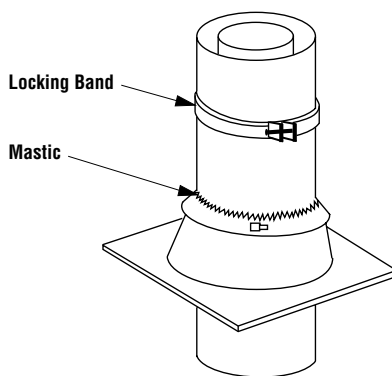

Figure 29
Step 8. The standard Security Chimneys FTF8 roof flashing assemblies include a storm collar. Slide the storm collar over outer chimney, rest on flashing spacers and align with top surface of flashing. Insert tab in slot, pull tight and bend tab back over slot. Seal storm collar to outer chimney with roof caulking or mastic around entire circumference of pipe. Also add extra roof caulking to the tab/slot area to seal completely against water penetration (Figure 29). Check all joints very carefully to ensure no water intrusion can take place.
Step 9. Security Chimneys locking bands, Model FLB, may be required if the chimney extends too high above the roof flashing. As a general rule, if the chimney extends more than 6' above the roof flashing, the use of locking bands is advisable to strengthen the chimney assembly. Align the locking band at the chimney joint. Locking bands wrap around pipe joints equally covering the joints of both pipe sections. Use the nut provided and TIGHTEN snugly. Do not overtighten as this might damage the chimney section (refer to Figure 29).